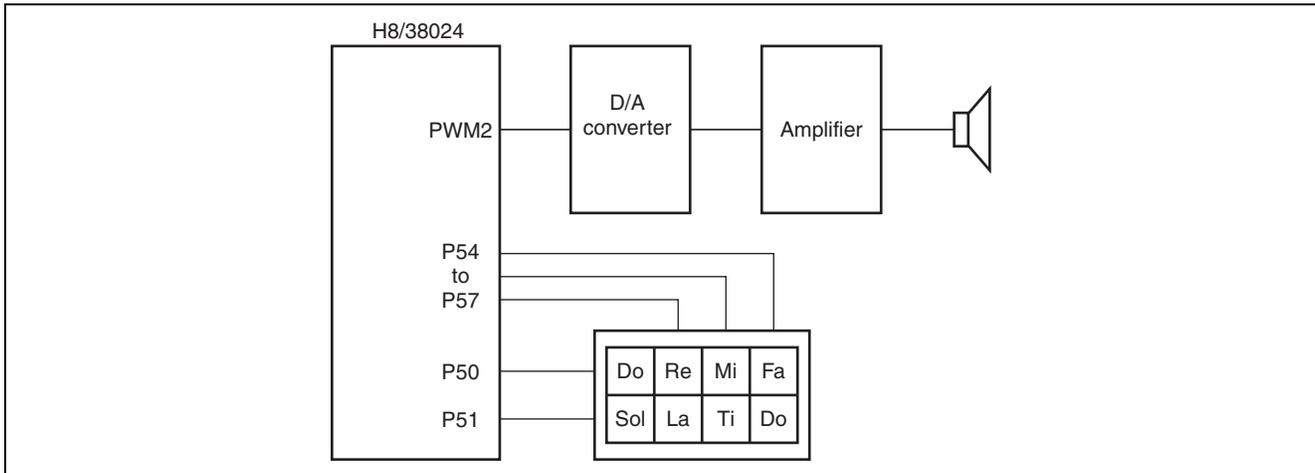

Figure 1.1 Configuration for the Sample Task
4. Figure 1.1 shows the connection of beep sound output.